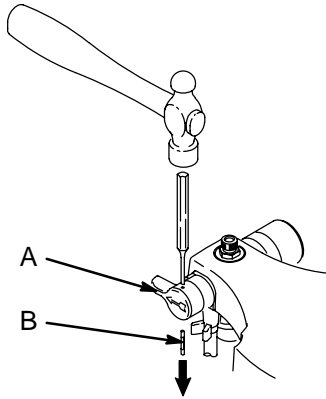

Fig. 1
- Turn Spray–Prime/Drain knob (A) down (Prime/Drain position).
2. Fig. 1. Turn knob (A) up to Spray position.
3. Remove pin (B) with 3/32 pin punch and hammer.